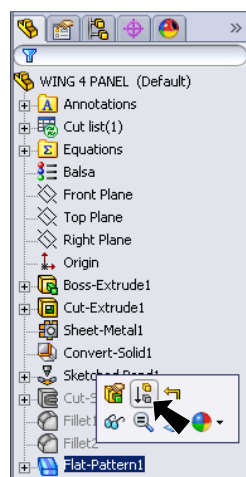

Fig. 50
Step 4. To return part to bent state, click the **Flat-Pattern1** feature and click **Suppress**  in the menu, **Fig. 50**.